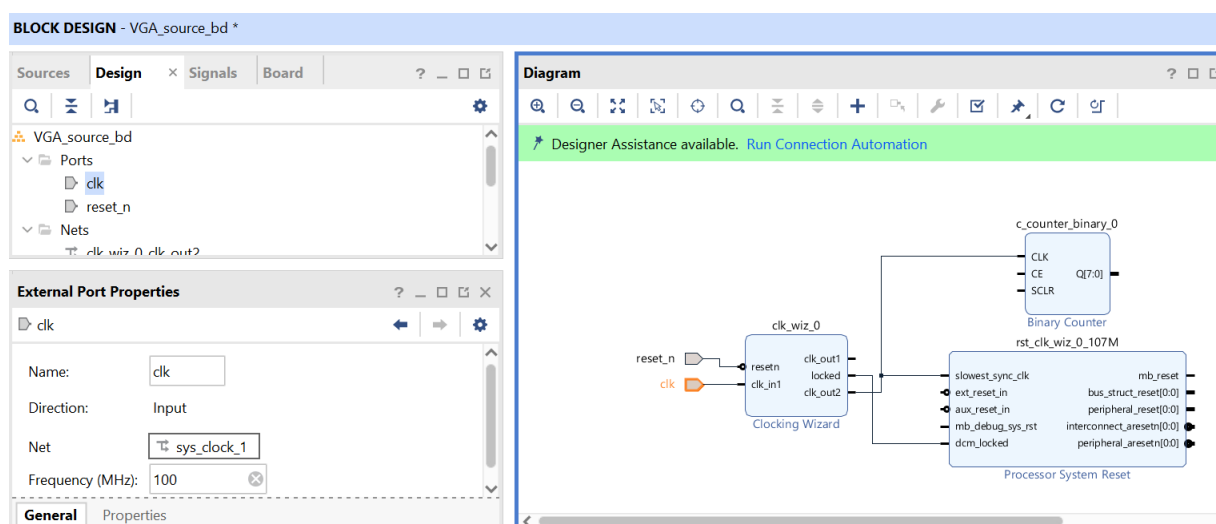

Figure 3: Partial system
- 4) Rename reset and clock respectively reset_n and clk. Click on the input and use the External Port Properties to do so. The resulting system at this stage is showed in figure 3.